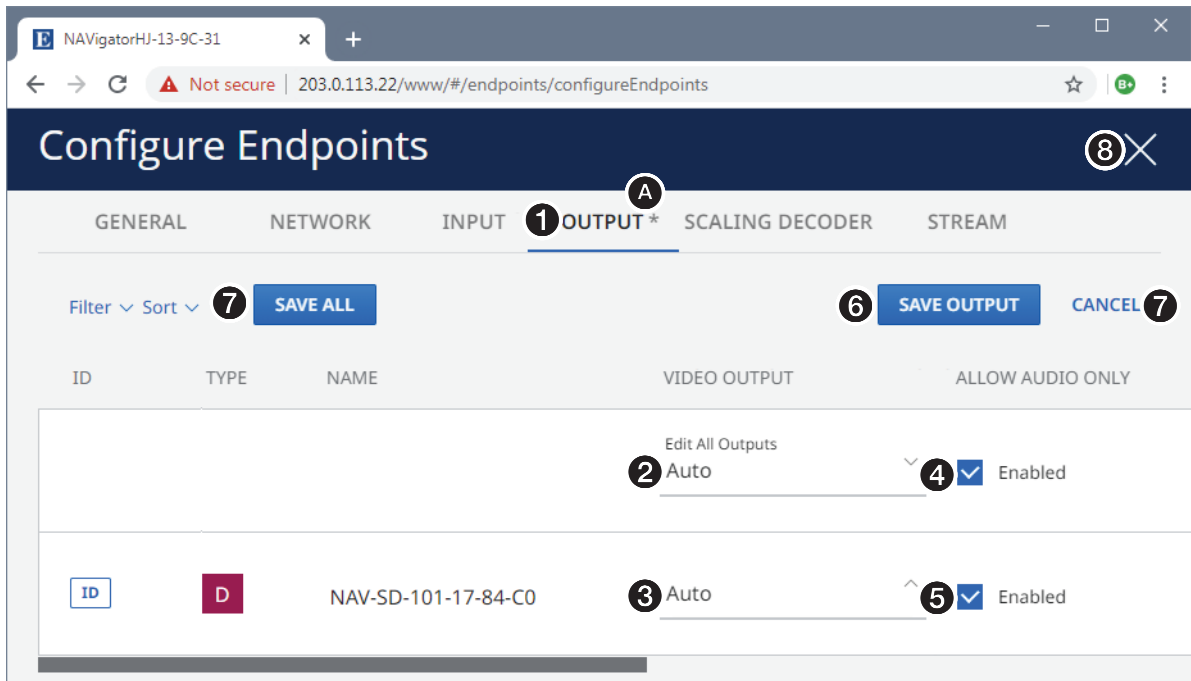

Figure 39. Configure Video and Audio Output Settings
1. Click the **Output** tab (see figure 39, ①).